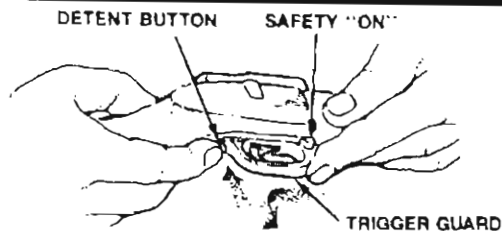

FIG. 7
- Tap the trigger guard rearward and pull down to remove the housing from the receiver (see Fig. 7 & 8).